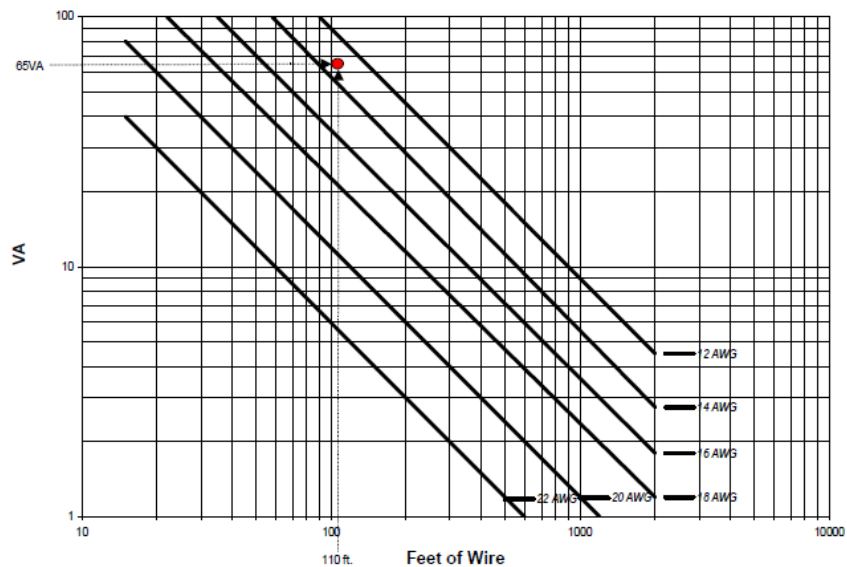

Fig. 9 Example of determining appropriate wire type
1. Extend all red clips to the screw mounting position by inserting the flat blade screwdriver at a marked location and move up the nod from the lower slot to the upper slot as shown in figure 9.